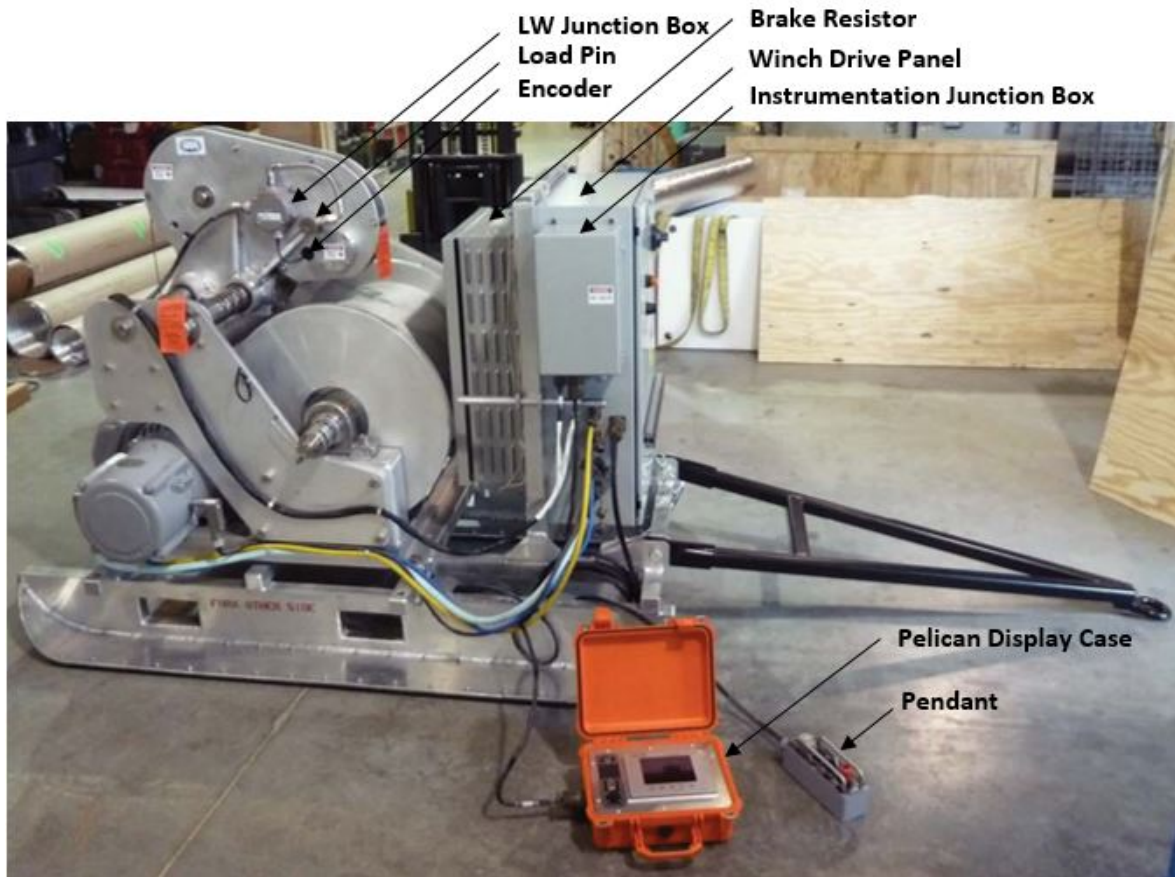

Figure 1: Deep Logging Winch
- 9.1 Remove the winch control cabinet from its case and bolt it onto the winch sled as shown (Figure 1).